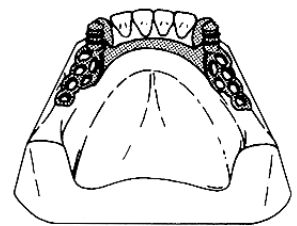

Fig. 10
17. Design and wax the partial denture framework on the refractory model. Wax a "cover" completely over and around the representation of the male and female on the refractory model (Fig. 10).